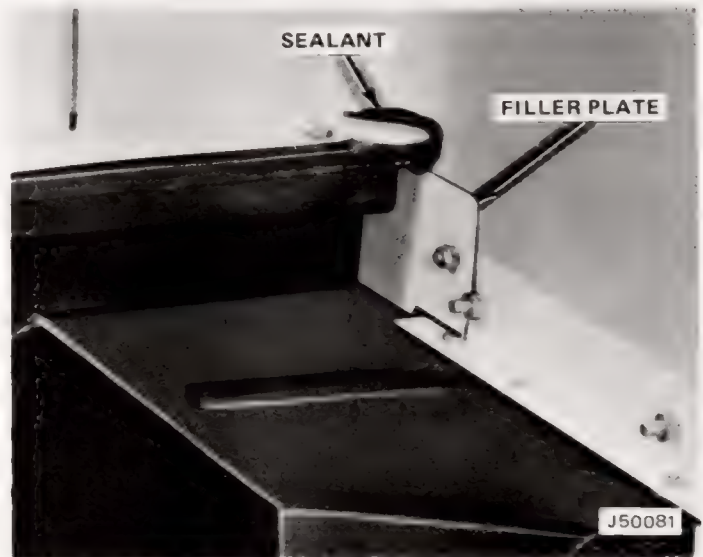
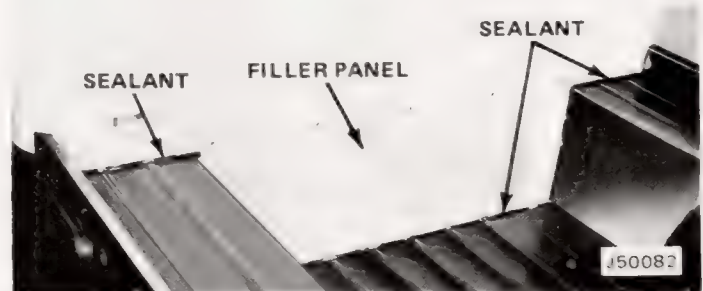

Fig. 2-13 Filler Plates Installed
Fig. 2-14 Sealant Applied to Filler Panel and Body
(1) Slide filler plate into position at each lower corner of rear panel (fig. 2-13). Some installations may require grinding filler plates to fit.
(2) Use slotted hole in each filler plate as guide and drill 13/64-inch hole through reinforcement angle and rear panel. Fasten with truss-head screws and locknuts.
(3) Force strip sealant between mating edges of filler plates and body and between filler plates and rear panel (fig. 2-14).